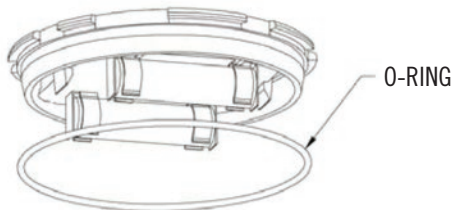

FIGURE 5
4. As noted in Figure 5, reinstall O-ring on electronics module. Align sensor receptacle in proper location. Press module gently down into meter cover.